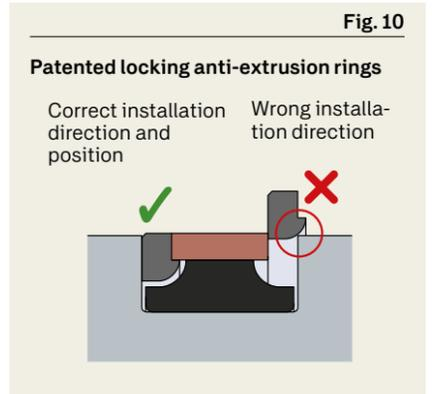
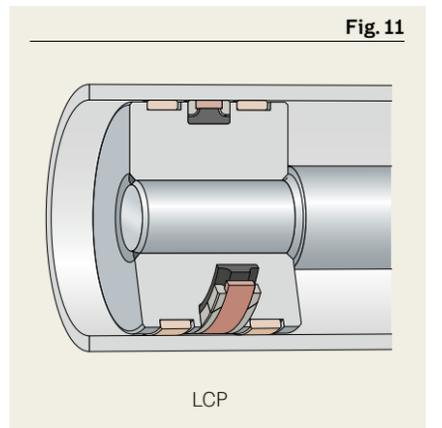

Fig. 10
Fig. 11
These SKF piston seals incorporate patented locking anti-extrusion rings made of polyamide (PA). They are split for easy installation. Their snap-in design makes it easy to identify the correct installation direction (→ **fig. 10**), holds them in place when installed and prevents damage during assembly.
LCP (→ **fig. 11**) profiles have a PTFE slide ring supported by harder PA anti-extrusion rings (→ **fig. 10**) and a T-shaped nitrile rubber (NBR) energizer. These capped T-seals are suitable for pressures up to 690 bar (10 000 psi) and available in metric and inch sizes. Some metric sizes fit seal housings in accordance with ISO 5597.